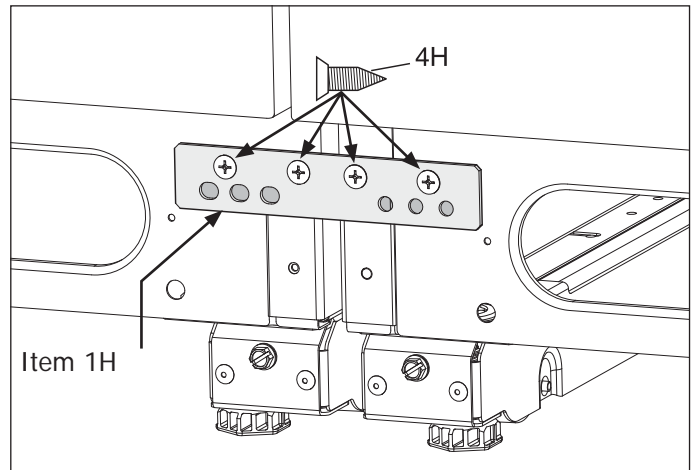

Figure 2-19.
- d. Tie units together with common mounting bracket at the bottom front using #3 Phillips driver. (See Figure 2-19)